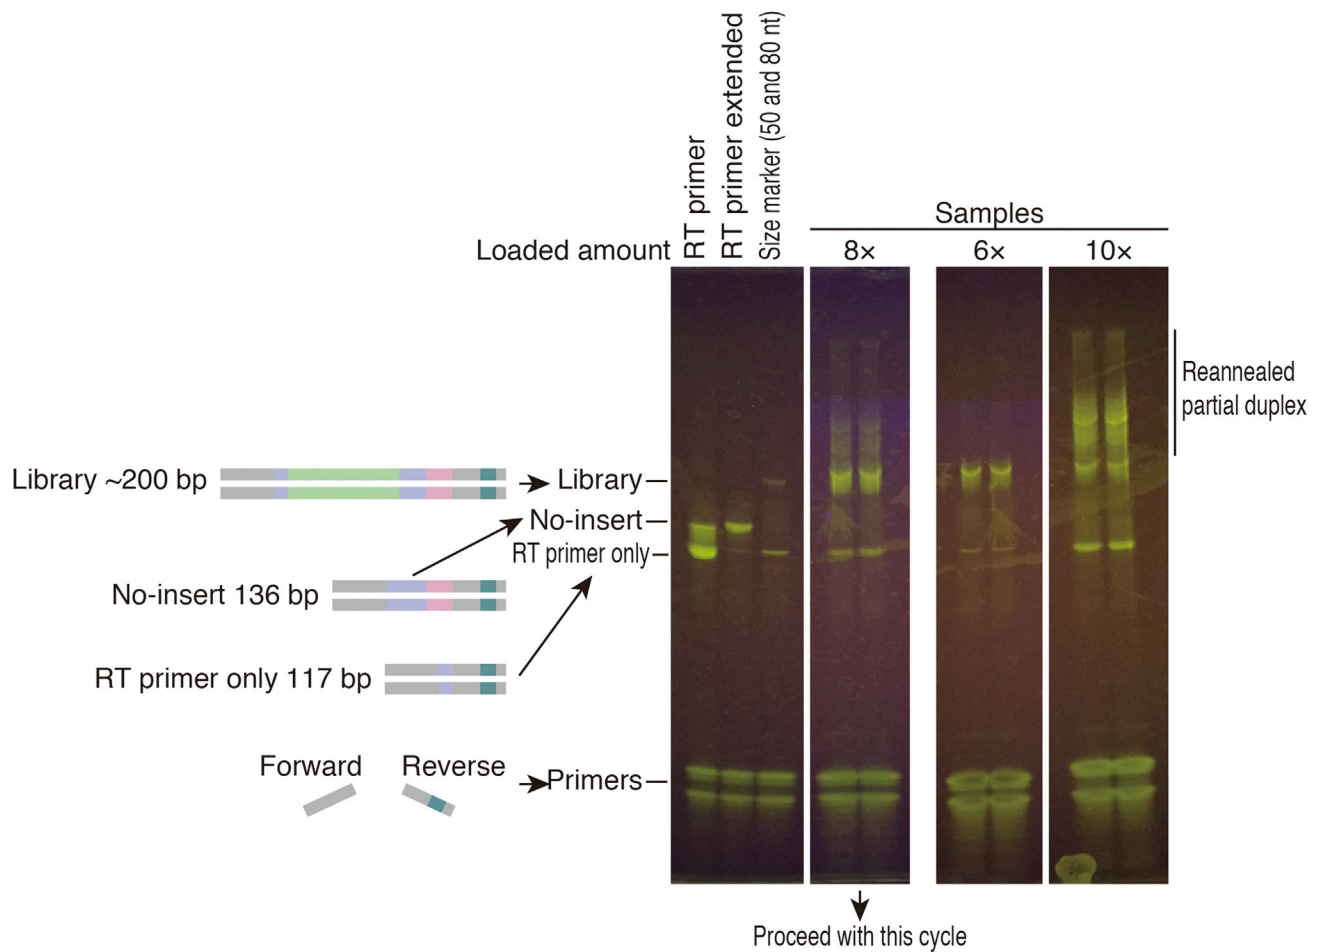

Figure 7. A Representative Gel Image for the PCR Product to Optimize the PCR Cycles
82. Stain and visualize the gel with SYBR Gold according to steps 46 and 47. See Figure 7 for a representative result.